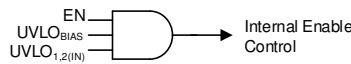

图 7-5. Simplified Turnon Control
Controlling when a single power supply turns on can be difficult in a power distribution network (PDN) because of the high power levels inherent in a PDN, and the variations between all of the supplies. The LDO turnon and turnoff time is set by the enable circuit (EN) and undervoltage lockout circuits (UVLO_{1,2(IN)} and UVLO_{BIAS}), as shown in 图 7-5 and 表 7-2.